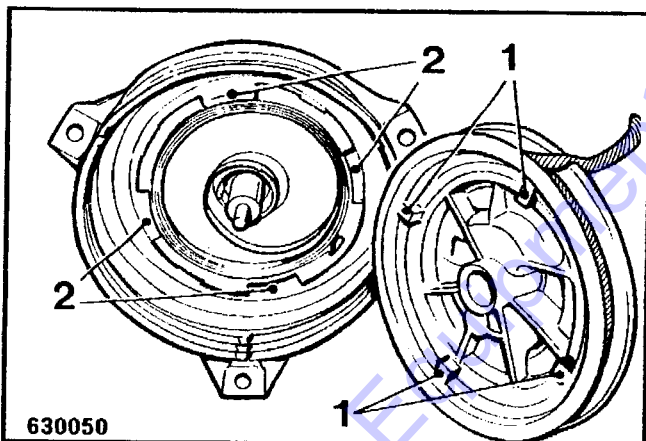

Fig. 5
- Insert the rope disc with the notches 1 (Fig. 5) carefully into the tappet grooves (2).